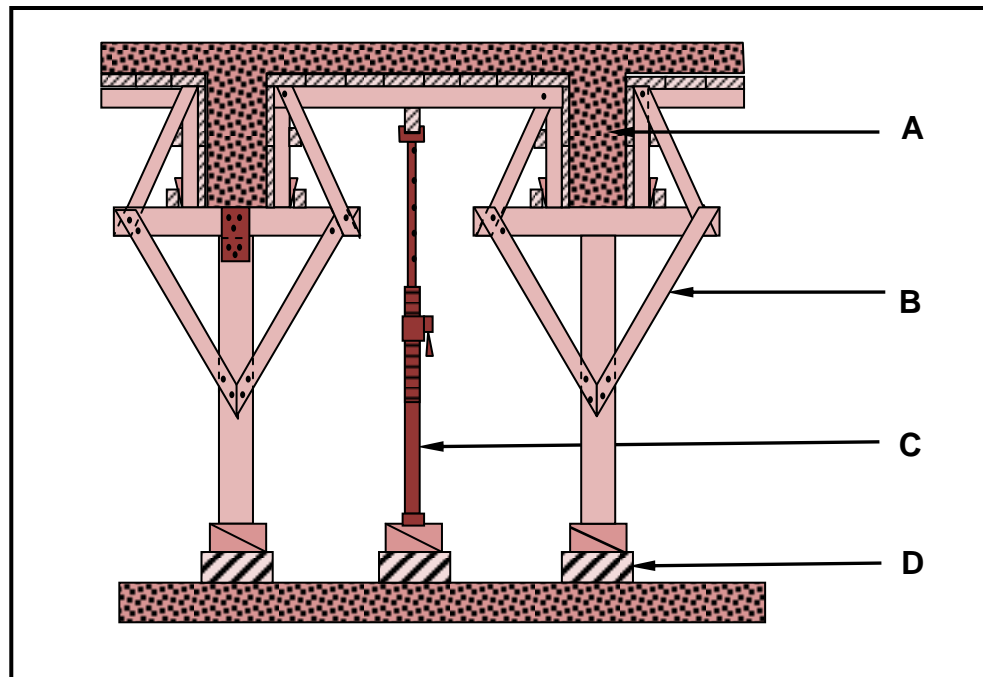

FIGURE 5.1
- 5.1 FIGURE 5.1 below shows a vertical sectional view through formwork for two concrete beams. Study FIGURE 5.1 and identify members **A** to **D**. Write only the answer next to the letter (A–D) in the ANSWER BOOK, e.g. E – Rib.